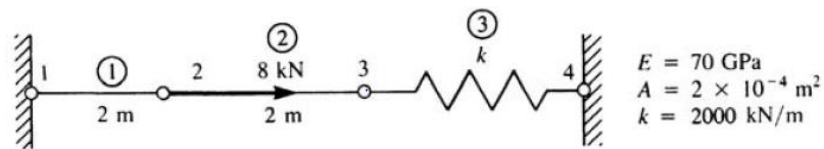

Figure 1
- 1A. For the spring bar assemblage shown in Figure 1. Determine the nodal displacements, the forces in each element. (05)